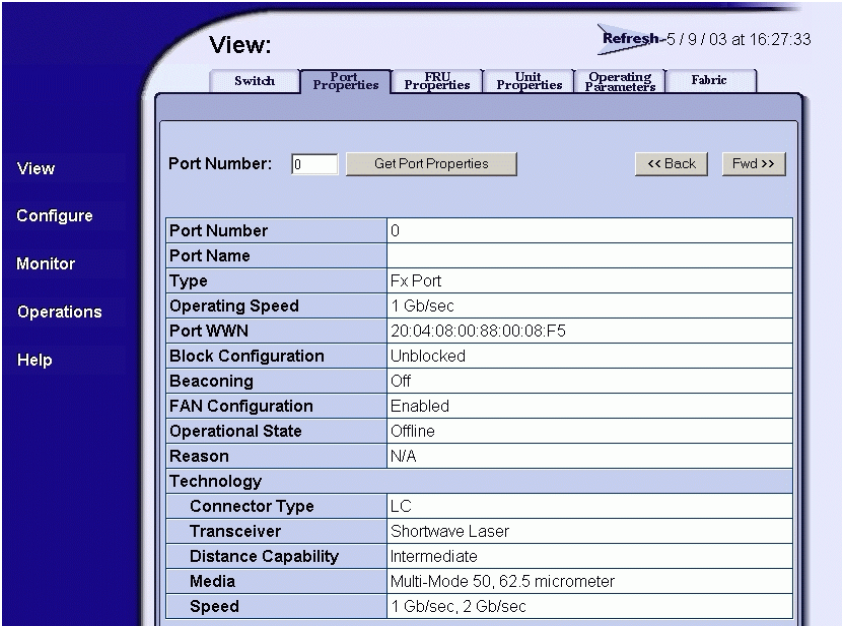

Figure 3-3 View Panel (Port Properties Tab)
- a. At the *View* panel, click the *Port Properties* tab. The *Port Properties* page displays with port **0** highlighted (Figure 3-3).